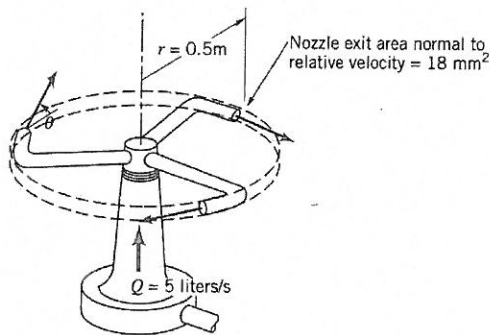

Figure P5.88
5.88  Five liters/s of water enter the rotor shown in Video V5.10 and Fig. P5.88 along the axis of rotation. The cross-sectional area of each of the three nozzle exits normal to the relative velocity is 18 mm². How large is the resisting torque required to hold the rotor stationary? How fast will the rotor spin steadily if the resisting torque is reduced to zero and (a) $\theta = 0^\circ$, (b) $\theta = 30^\circ$, (c) $\theta = 60^\circ$?